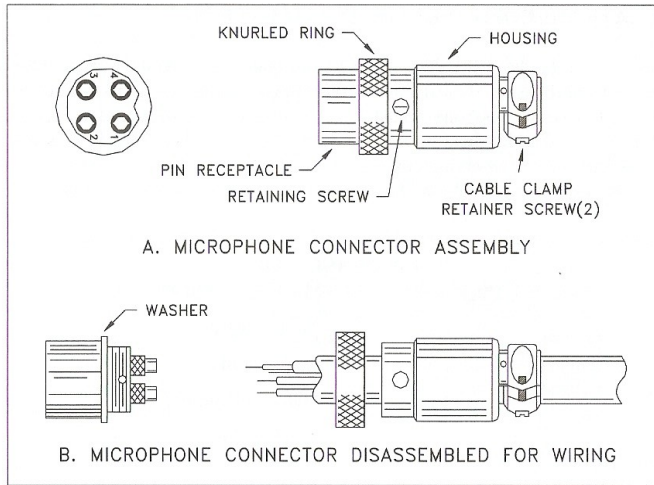

Fig. 2 Microphone plug wiring
4. Feed the microphone cable through the housing, knurled ring and washer as shown Figure 2.
Be sure that the housing and the knurled ring of Fig. 2 are pushed back onto the microphone cable before starting to solder. If the washer is not captive to the pin receptacle body, make sure that it is placed on the threaded portion of the pin receptacle body before soldering.